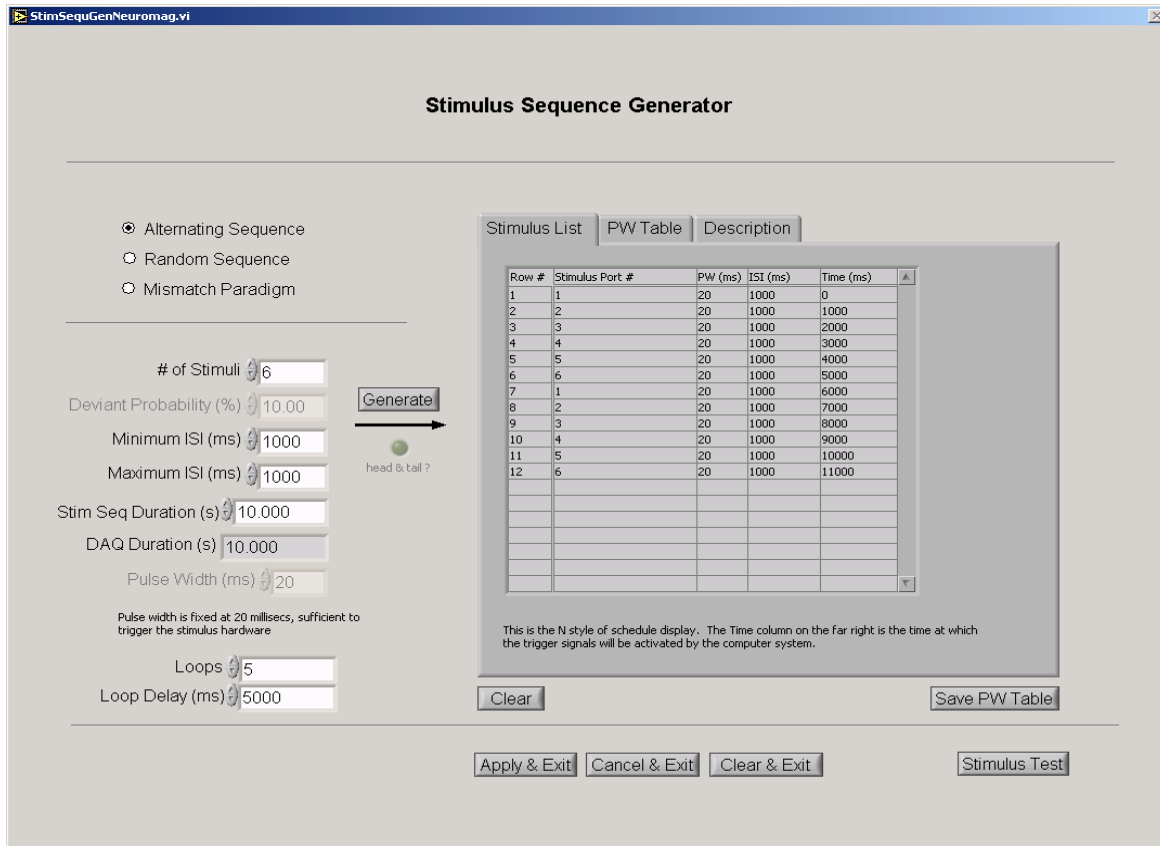

Figure 36: Sequence Generator (Stimulus List)
The **Stimulus List** tab gives a sequential list of the triggers applied, along with their pulse width (PW), inter stimulus interval (ISI), and initiation times, in milliseconds, as shown in **Figure 36**.